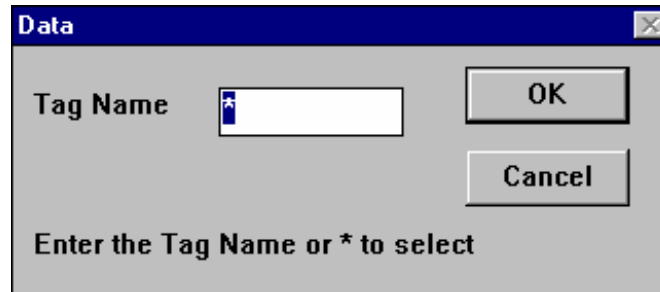

Figure 13-2: Data Dialog Box
2. Right-click on a row and select Data from the pop-up menu that appears. The Data dialog box appears (Figure 13-2).